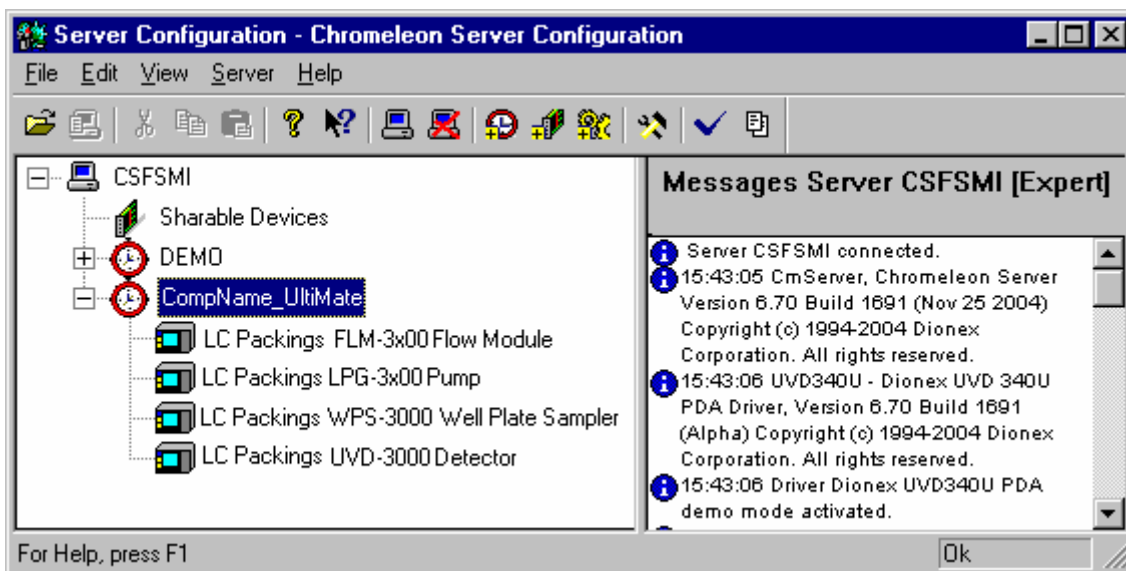

Fig. 22: Installation of an UltiMate 3000 system in the Server Configuration program (here: for Direct Injection, Preconcentration, or 2D LC Salt Plug)
- Install and configure the system modules in the Chromeleon Server Configuration program as described in the *Operating Instructions* for the module. You can add the modules in any order to the timebase. However, some settings affect more than one module. Therefore, the preferred order of installation is as follows (→ Fig. 22, page 46):